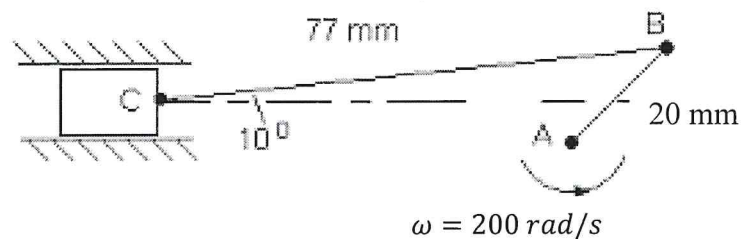

Figure Q2 (c) / Gambarajah S2 (c)
- (c) The Figure Q2 (c) show the crank AB rotates anti-clockwise at angular velocity, ω of 200 rad/s. For the figure shown;